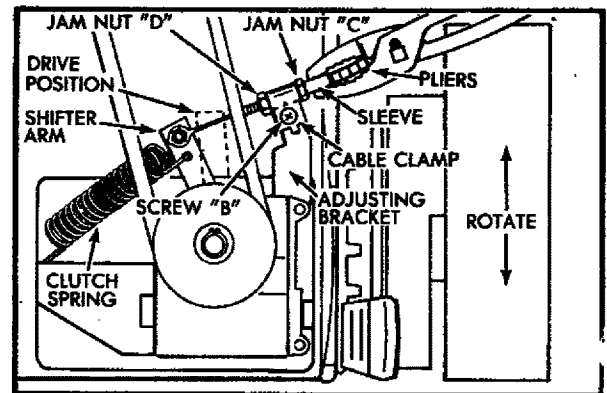

FIG. 22
2. The drive belt is spring-loaded at the gear case to maintain proper belt tension. Keep the area around the gear case clear of trash by removing drive cover and cleaning (See Fig. 22 and 24).
2. Loosen screws holding cable clamp "A" & "B" (See Figs. 22 and 23).
3. Loosen both jam nuts "C" & "D" at the cable clamp on the gear case adjusting bracket (See Fig. 22).
4. Unhook clutch spring from shifter arm (See Fig. 22).
7. Hold shifter arm in fully engaged position by gripping and pulling threaded sleeve with pliers as shown in Fig. 22. **DO NOT** pull on control cable.
9. Tighten cable clamp screw "B" (See Fig. 22).
10. Tighten jam nut "D" up to bracket (See Fig. 22).